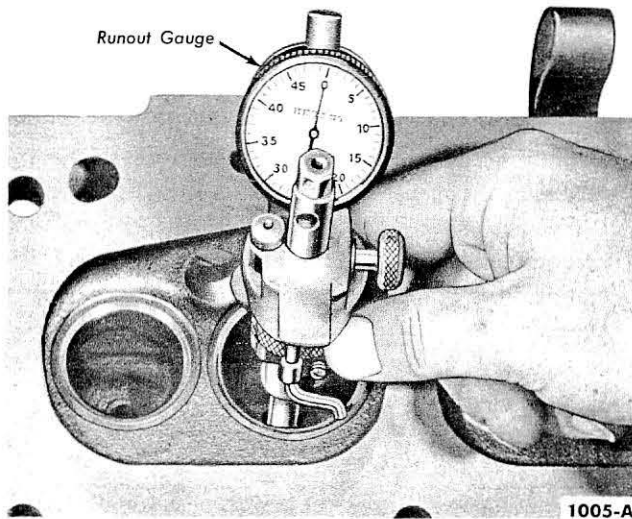

Fig. 5—Valve Seat Runout—Typical
**Valve Seat Runout.** Check the valve seat runout with an accurate gauge (Fig. 5). Follow the instructions of the gauge manufacturer. The total runout should not exceed 0.0025 inch (wear limit).